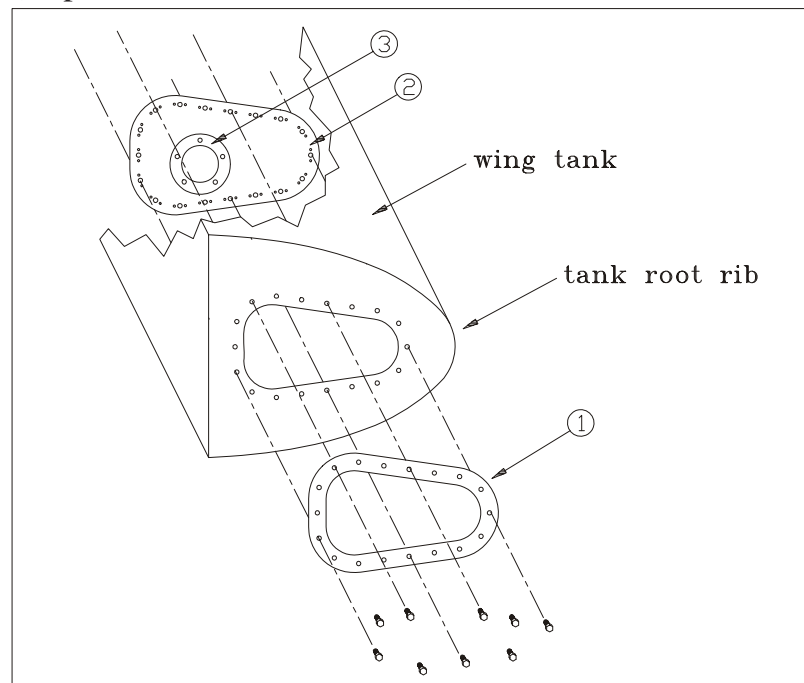

Figure 6 Inspection Door Removal/Installation
- 9 Apply a cohesive film of Scotch Clad 776 through the inspection hole of the tank root rib (Figure 6) by using the spray gun.
- 2 Disconnect the ground bonding leads and if necessary the electrical wiring of the lever-type tank unit (3, Figure 6).
- 4 Remove the inspection door flange (1).
- 5 Push the inspection door (2) into the tank, then turn and remove.